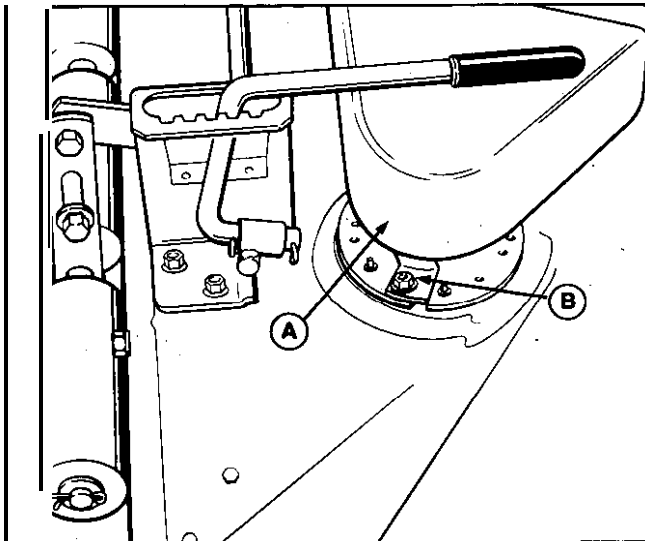

Figure 7.
1. Remove the right-hand arbor cover (A, figure 7) by removing bolts, washers and **nuts** in front that hold cover to deck. Also, remove nut (B) and washers that **secure** rear tab to arbor.